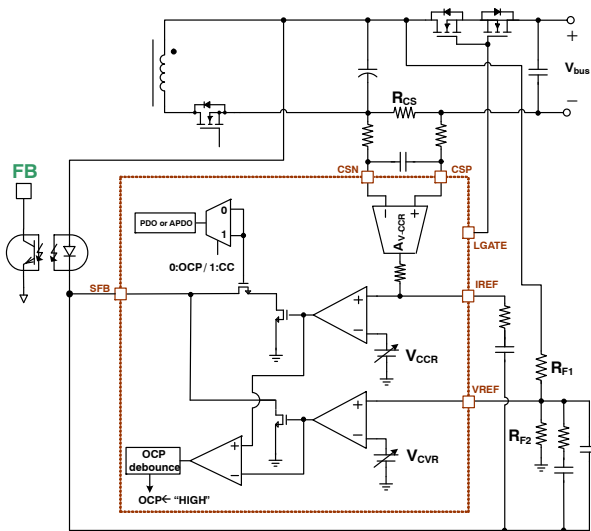
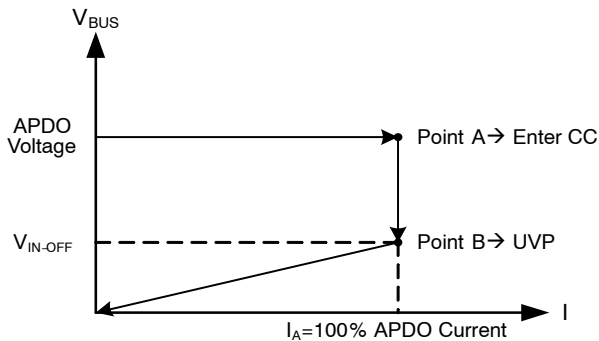

Figure 29. Voltage and Current Sensing Circuits
Figure 30. APDO CC Operation
In order to regulate adaptive output voltages, the constant voltage control (CV) is implemented. The output voltage is sensed through an external resistor divider. The sensed output voltage is connected to the VREF pin, and it is input the non-inverting input terminal of the internal operational amplifier. The inverting input terminal is connected to the internal voltage reference (V_{CVR}) which can be adjusted according to the requested output voltage. The amplifier and an internal switch operate as a shunt regulator, and the output of the shunt regulator is connected to the external opto-coupler via SFB pin. To compensate output voltage regulation, typically, two capacitors and one resistor are connected between SFB and VREF pins as Figure 29. The output voltage can be derived as calculated by the Equation 1, and the ratio of the resistor divider is 10. The reference (V_{CVR}) for the output voltage is generated by a 10-bit DAC. The minimum resolution is 20 mV to meet PD3.0 compliance spec.
Constant current (CC) control is enabled during USB PD contracts. When CC mode is enabled, the supply will foldback the output voltage as the load increases in order to maintain a fixed output current as shown in Figure 30. Output current is sensed via a current-sense resistor R_{CS}, which is connected between the CSP and CSN pins. The sensed signal is internally amplified, and this amplified voltage is connected to the non-inverting input of the internal operational amplifier. Similar to the constant voltage amplifier circuit, it also plays a role as a shunt regulator to regulate the constant output current. In order to compensate output current regulation, one capacitor and one resistor are connected between the IREF and SFB pins as shown in Figure 29. The constant output current can be calculated using Equation 2. 5mΩ is typically used for the sense resistor.